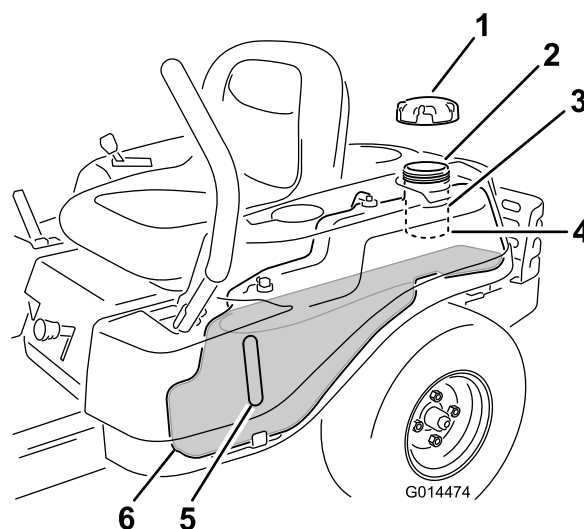

Figure 7
Note: You can use the fuel window to verify the presence of gasoline before filling the tank (Figure 7).
2. **Slowly** add gasoline until the fuel reaches the base of the filler neck (Figure 7).